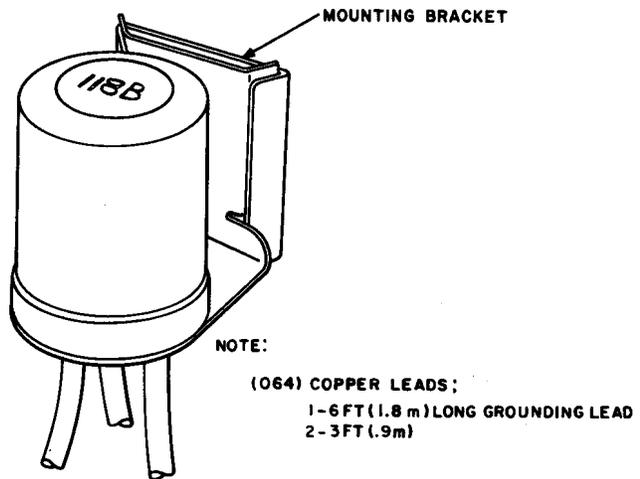
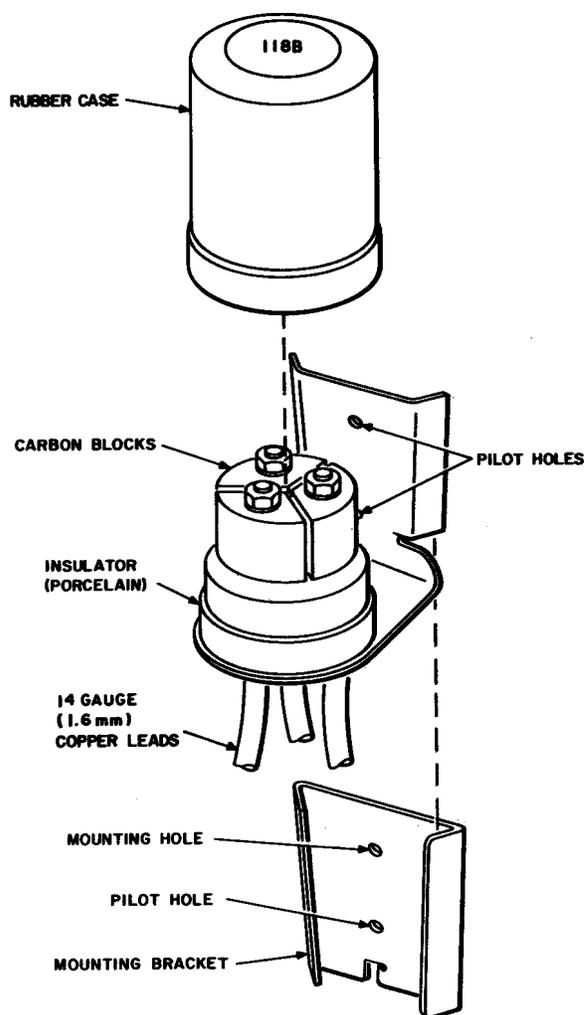

Fig. 99—118B Protector
Fig. 100—♦118B Protector, Disassembled♦
13.01 The 118B protector (Fig. 99), which supersedes the 99C protector, is designed to protect telephone circuits in the event of an accidental contact between power wires (of the MGN-type and carrying over 2000 volts) and telephone wires. The 118B protector consists of three carbon electrodes, having 0.020-inch gaps, mounted on a porcelain base and enclosed in a rubber case (Fig. 100). Three No. 14 gauge insulated wire leads extend from the bottom of the protector. One lead, 72-inches long, is connected to ground (of the MGN power) and two leads, 36-inches long, are connected to the telephone line wires.